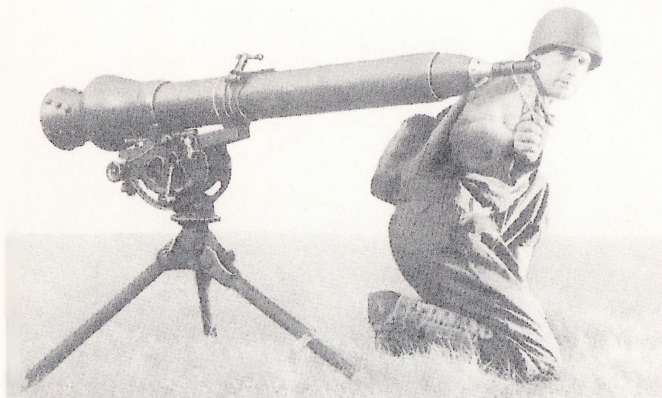

Fig. 16. Firing position for low angle fire (elevation 200 mils or less).
c. Firing procedure. (1) Mortar can be fired from either the right or left side of the muzzle.
(2) For rounds fired with driver, fire round by removing cotter pin from driver, removing pin with a steady pull. When firing from right side of mortar, grasp pull-ring with left hand (body facing direction of fire), withdraw pin, and at the same time move to and face the right front of the mortar. Gunner must not move to rear or face rear of barrel. When firing from left side, grasp pull-ring with right hand (body facing direction of fire) (fig. 16), withdraw pin, and at the same time move to and face the left front of the mortar. After removal of the pin, driver rocket ignites immediately, and round is propelled through the